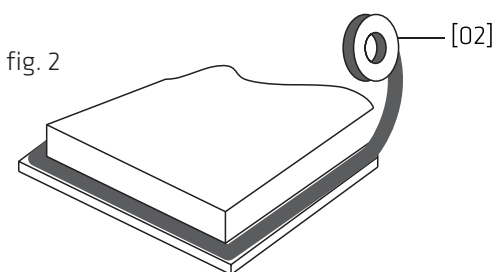

fig. 2
2. Apply the supplied sealing strip along the underside edge of the hob (fig. 2). Run it all the way around the perimeter and let the ends meet or slightly overlap.